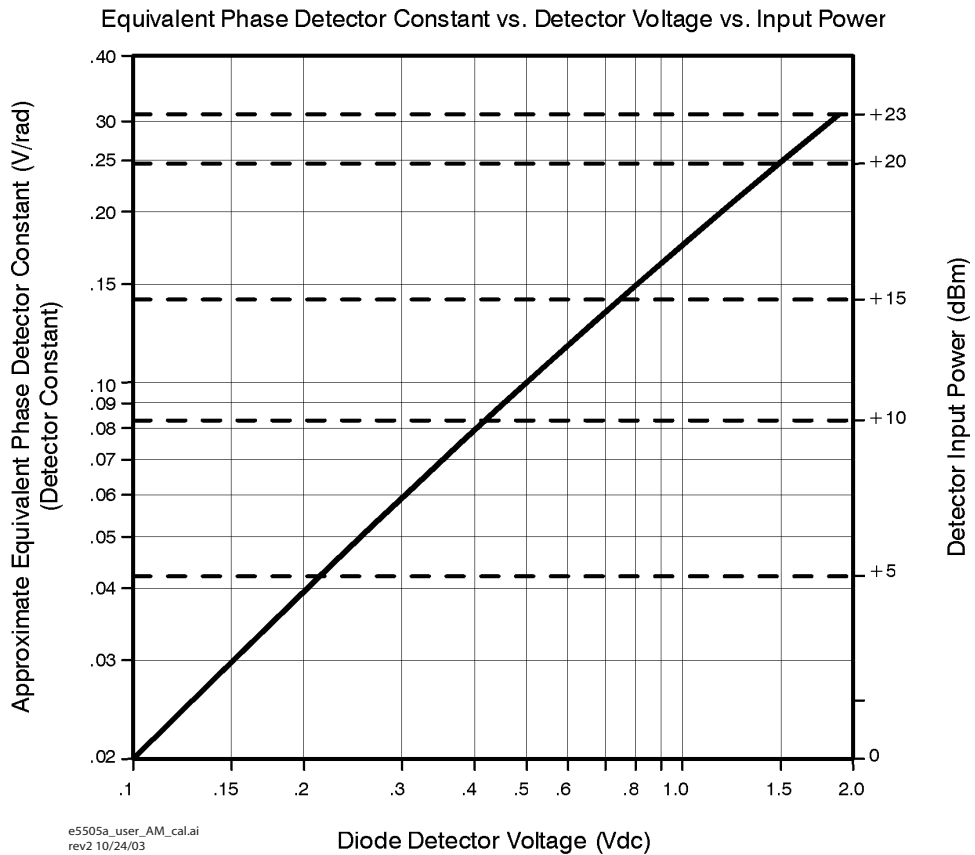

Figure 224 AM detector sensitivity graph
- 3 Locate the drive level on the AM sensitivity graph (Figure 224), and enter the data.
- 3 Measure the monitor output voltage on the AM detector with an oscilloscope or voltmeter. Locate the diode detector's DC voltage along the bottom of the AM sensitivity graph (Figure 224). Moving up to the diagonal calibration line and over, the equivalent phase detector constant can then be read from the left side of the graph. The measured data will be plotted as single-sideband AM noise in dBc/Hz.